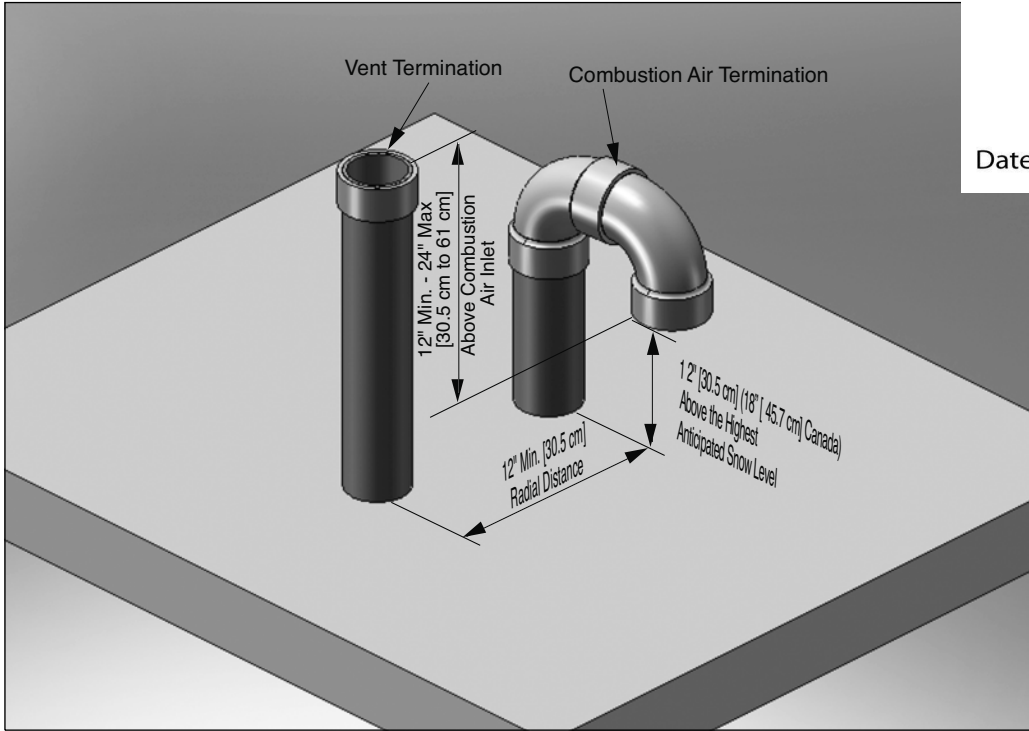
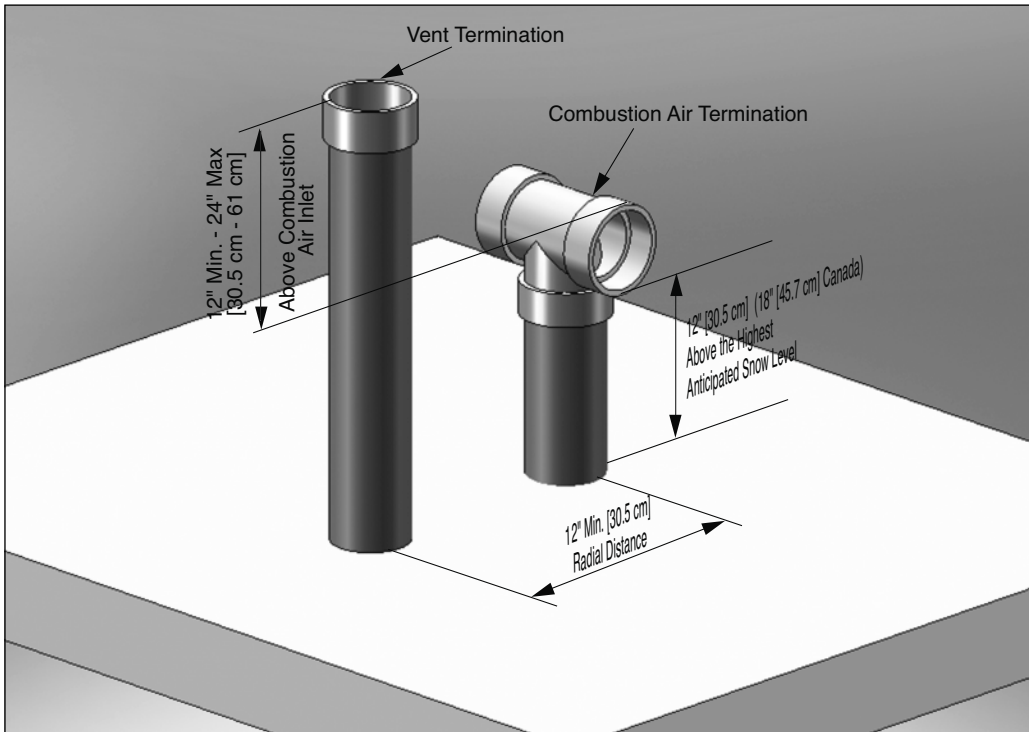

Fig. 1: Direct Vent - Vertical Termination of Vent and Combustion Air Piping.
Fig. 2: Direct Vent - Vertical Termination of Vent and Combustion Air Piping.
2. The combustion air piping m... upside down "U" shape fashion using two 90° elbows as shown in Fig. 1 page 12 or with a tee as shown in Fig. 2 page 12. The termination must be installed 12" [30.5 cm] (18" [45.7 cm] Canada) above the highest anticipated snow level.
3. The vent must terminate vertically with a coupling to accept the bird screen and must be located 12" to 24" [30.5 cm to 61 cm] above the combustion air inlet as shown in Fig. 1 & Fig. 2 on page 12.
4. The vent and combustion air terminations must be located a radial distance of 12" to 24" [30.5 cm to 61 cm] from centerline of vent termination to centerline of air termination as shown in Figs. 1 & 2 on page 12.
3. Locate the vent and combustion air pipe penetrations to provide clearances as described in Fig. 1 & Fig. 2 on page 12.
2. The combustion air piping must terminate in an upside down "U" shape fashion using two 90° elbows as shown in Fig. 1 page 12 or with a tee as shown in Fig. 2 on page 12.
3. The vent piping must terminate vertically with a coupling as shown in Figs. 1 & 2 page 12.
Do not extend the vent pipe above the roof beyond the dimensions shown in Fig. 1 & Fig. 2 on page 12. Extended exposure of the vent pipe could cause condensate to freeze and block the vent pipe.